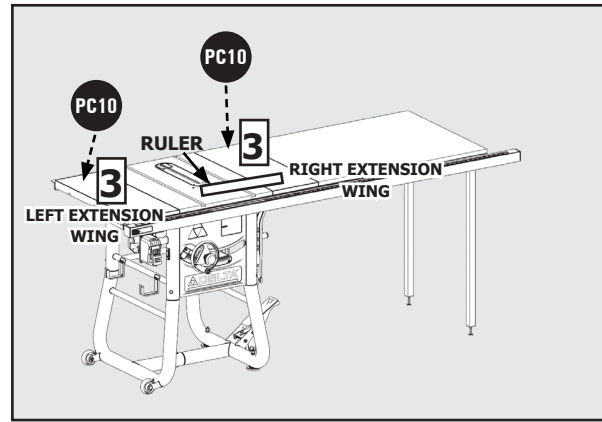

Figure 10
4. Attach the left side extension wing **PC10** [3] to the side of the saw table using three 5/16-18 x 7/8 inch hex head screws with Split Lock Washers **HP7**. See Figure 10.
4. Attach the extension wings (PC10) [3] to the table using three 5/16-18 x 7/8 inch Hex Head Screws with Split Lock Washers (HP7) for each wing. See Figure 10.
NOTE: Use a ruler to make sure the top edges of the wings are flush with the top of the tabletop. See Figure 10.